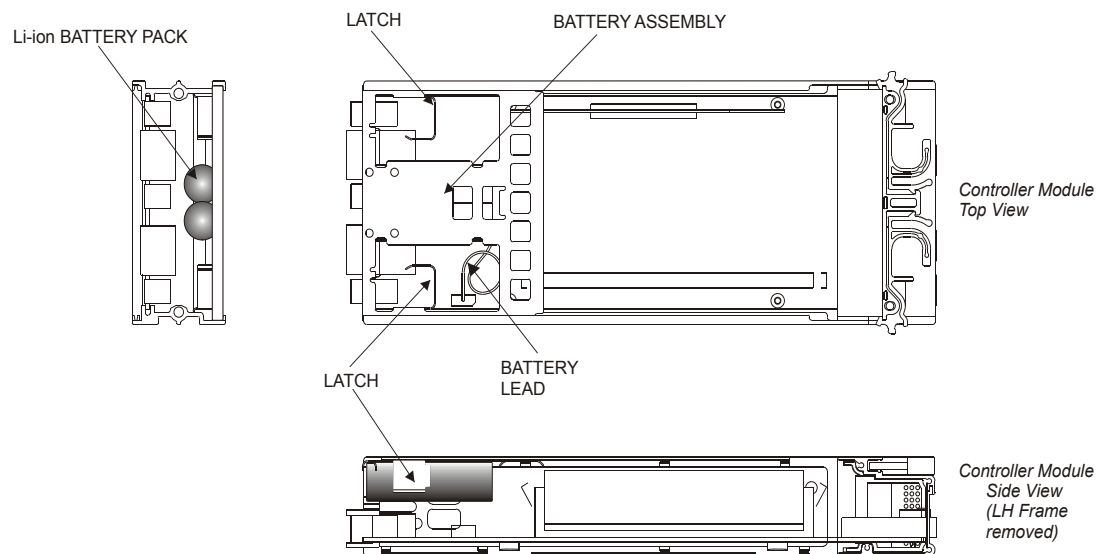

Figure 13–13 Controller Module - Battery Assembly Location
- 3 Release the battery assembly by squeezing the two latches (shown in Figure 13–13) with thumb and forefinger and slide the assembly out of the LRC module.